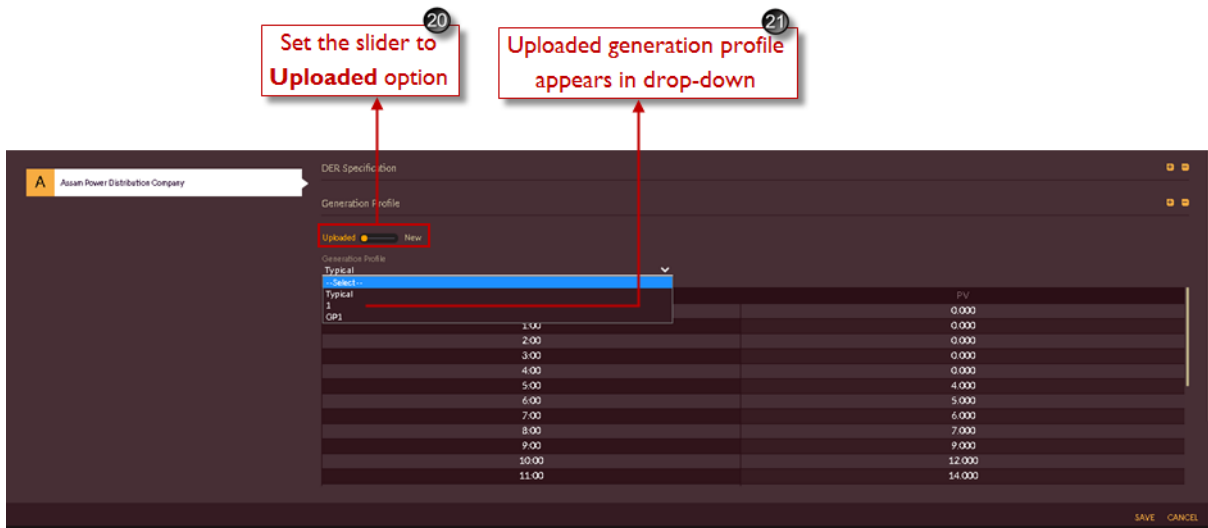

Figure 53. Uploaded Generation Profile
20. Set the slider to **Uploaded**  option as shown in Figure 53.